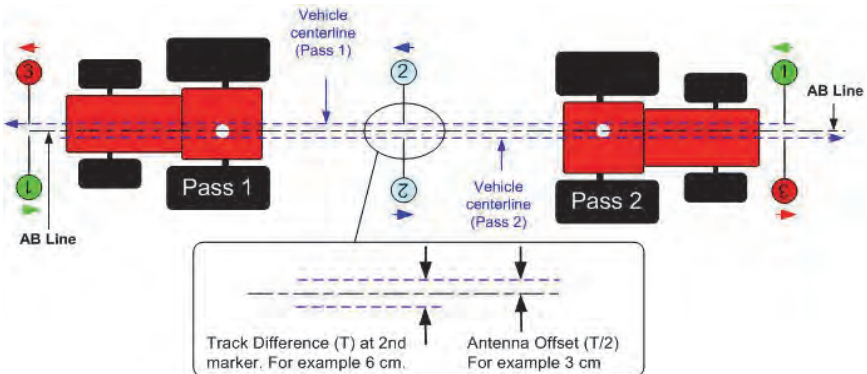

Figure 2-40: Determining the antenna offset. Example $6/2 = 3$ cm Left
5. Determine the direction of the offset. This is the direction in which the vehicle would have to move for the second pass to track exactly over the first pass (this tells you if the antenna center is to the left or the right of the vehicle centerline). In Figure 2-40 on page 46, the vehicle would need to move to the left for the second pass to be exactly on the first pass. (The direction of the offset can also be described as the left or right direction of the antenna's centerline relative to the vehicle centerline when viewed in the direction of travel.)
4. Measure the distance between corresponding markers. In our example (Figure 2-40) the centerline difference is 6 cm.
6. Determine the direction of the offset. This is the direction in which the vehicle would have to move for the second pass to track exactly over the first pass (this tells you if the antenna center is to the left or the right of the vehicle centerline). In Figure 2-40 on page 46, the vehicle would need to move to the left for the second pass to be exactly on the first pass. (The direction of the offset can also be described as the left or right direction of the antenna's centerline relative to the vehicle centerline when viewed in the direction of travel.)